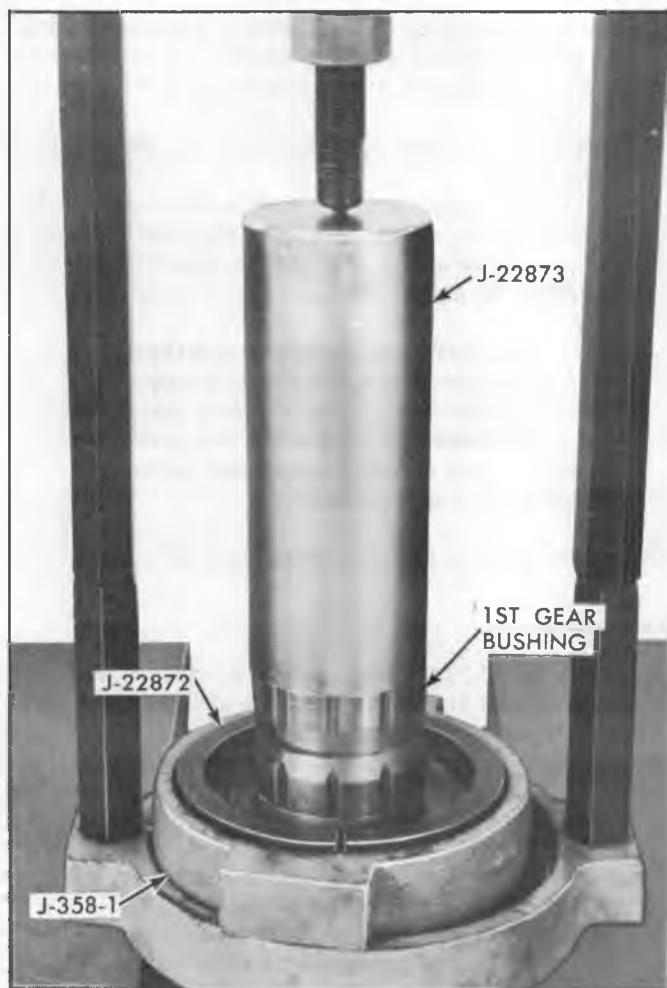

Fig. 17Q—Installing 3rd Speed Gear Bushing
4. Using Tool J-22873 press 1st speed gear bushing onto mainshaft until it bottoms against hub (fig. 17Q).